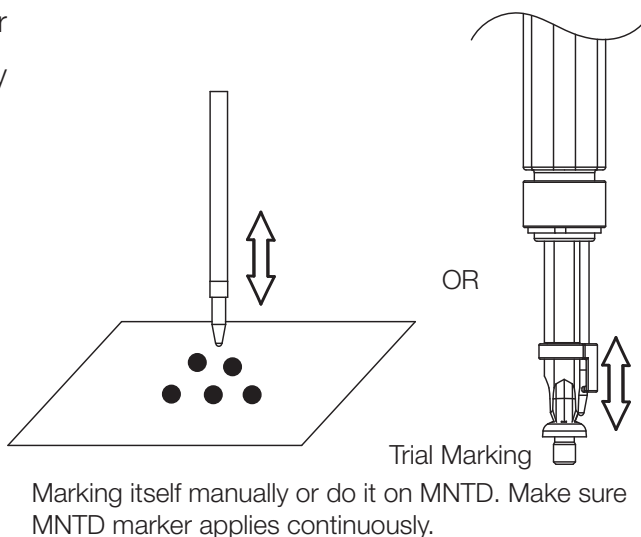

Fig. 9
- (6) When you start with a new marker or hardly delivering ink, try marking manually in several times, Fig. 9.